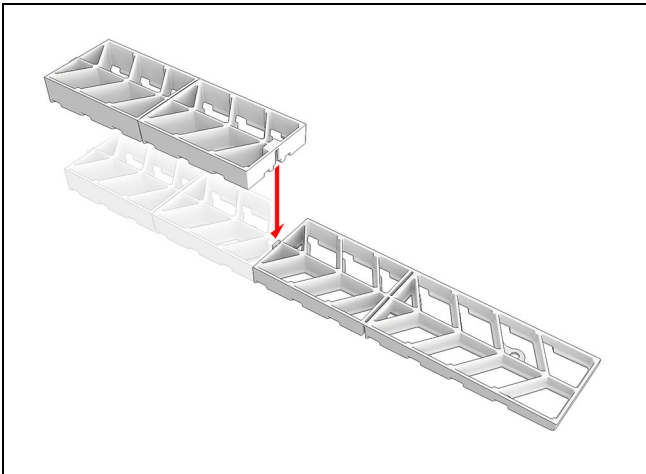

Figure 11 Connect counter-shims
- 1. Assemble the counter-shims sent with the door. See Figure 11.